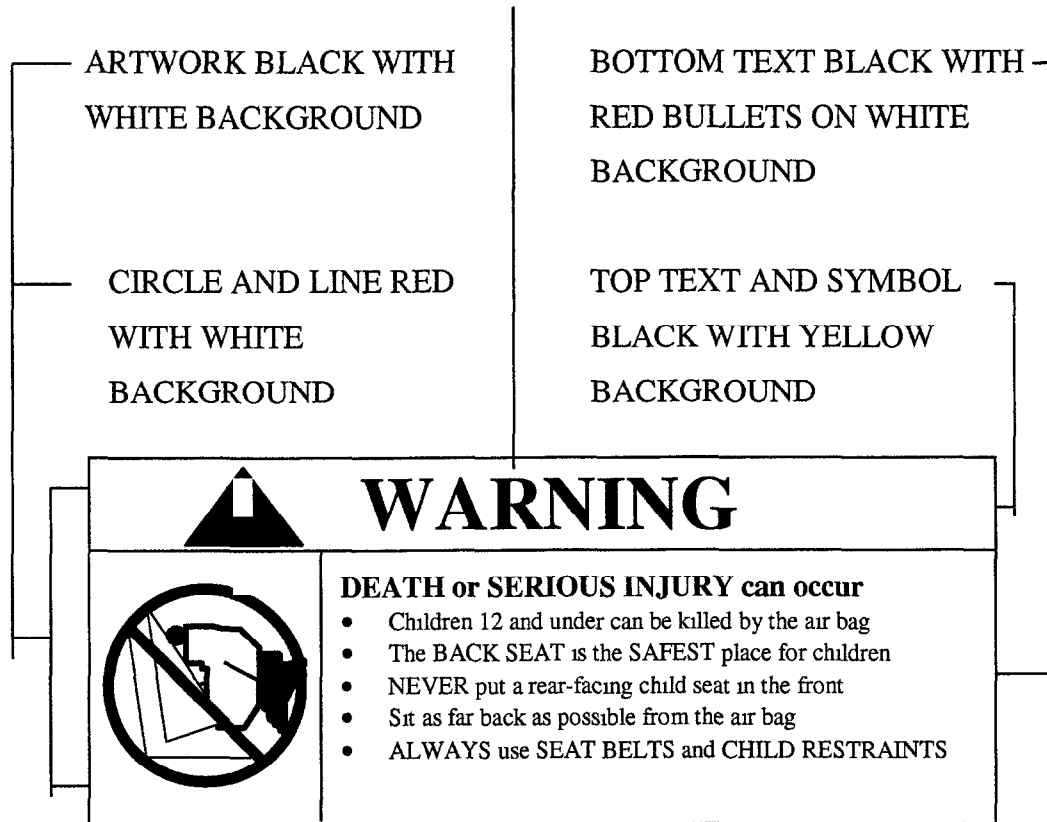

Figure 6a
- 4.2 Does the label conform in content (**vehicles without back seats may omit the statement: "The BACK SEAT is the SAFEST place for children."**) (S4.5.1(b)(2)(v)) to the label shown in either Figure 6a or 6b as appropriate at each front outboard seating position with an air bag? (S4.5.1(b)(2))
- 4.2.2.1 Does the label conform on content to the label shown in either Figure 6a or 6b as appropriate?
- 4.2.2.2 Does the label conform in content to the label shown in Figure 6a where the label can be modified to omit the pictogram and the message may read: